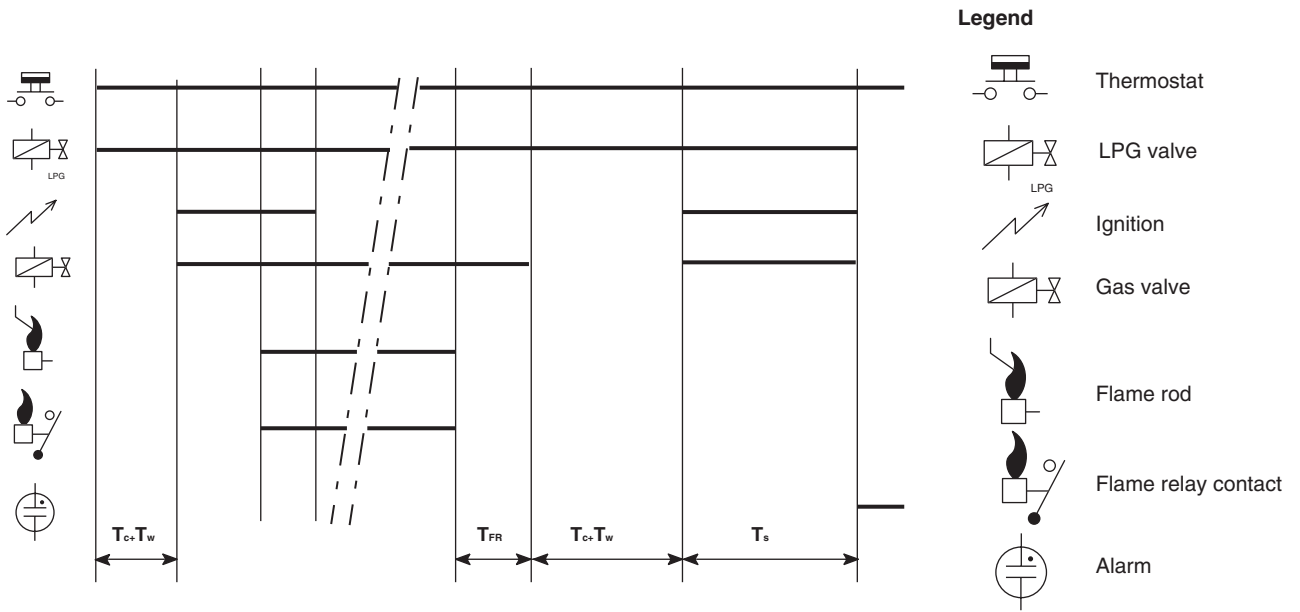

Fig. 20. Timing diagram S4565BD, QD "1000" series
**Suffix BD and QD (see fig. 20.)**